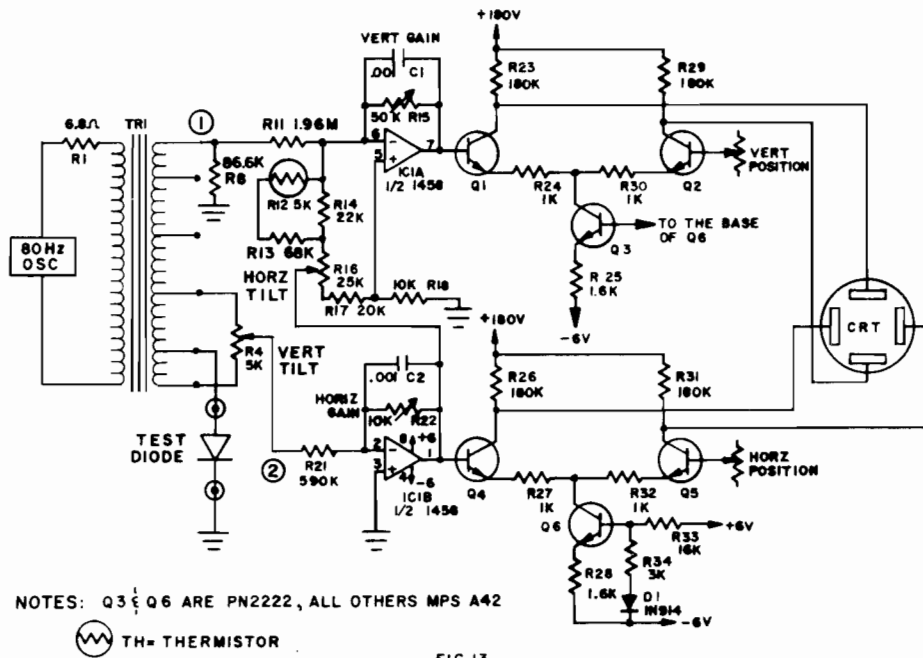

FIG. 13
**Figure 13** is a more detailed circuit description with the HIGH range selected. R4 provides for a phase angle correction when the test points are shorted and compensates for CRT distortion.
Referring to **Figure 13**, R15 and R22 are the vertical and horizontal gain adjustments respectively. Transistors Q1, Q2, Q3, and associated components form the vertical amplifier, while Q4, Q5, Q6, and associated components form the horizontal amplifier. These amplifiers are temperature compensated to avoid drifting.